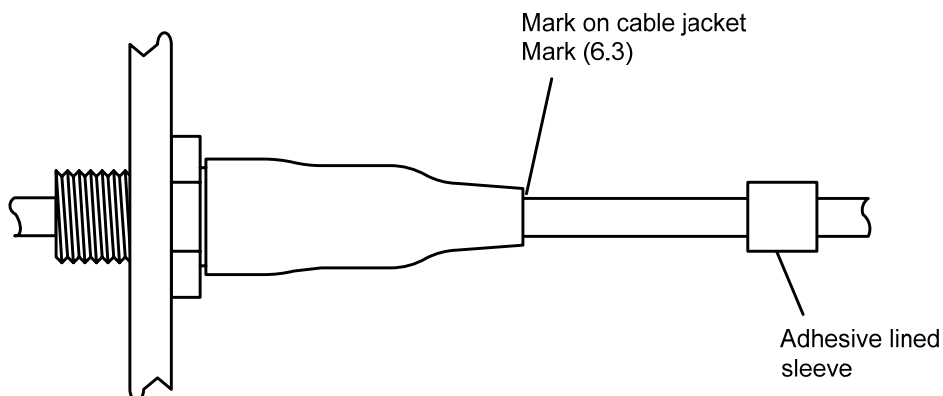

Figure 6
6.3 Mark the cable where the TCFS/TCFR boot ends. Release the TCFS/TCFR and slide along the cable. See Figure 6